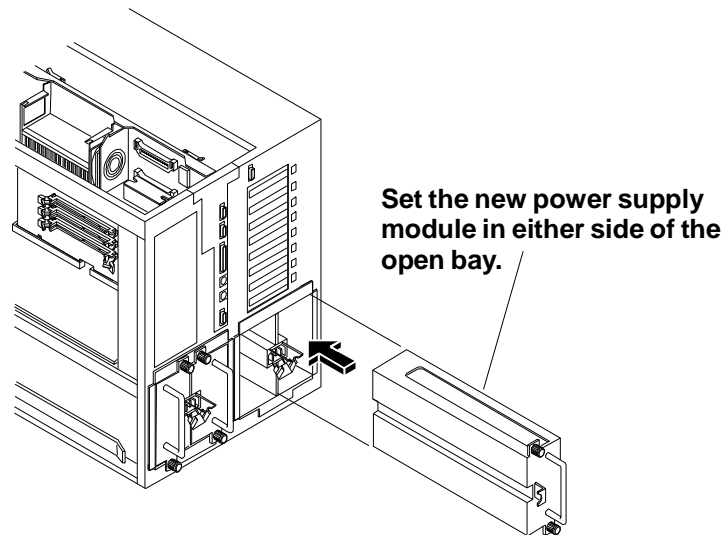

Figure 2-4. Setting the New Power Supply in the Open Bay
1. Set the new PSM in the open bay (see Figure 2-4). The power supply can go into either side of the cage.